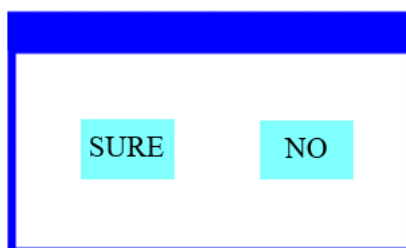

Figure 7 Dialog of confirm
- When the parameter is a key item, chick corresponding item, a dialog shown in Figure 7 will be popup ask for the confirm. Chick 'sure' to confirm.